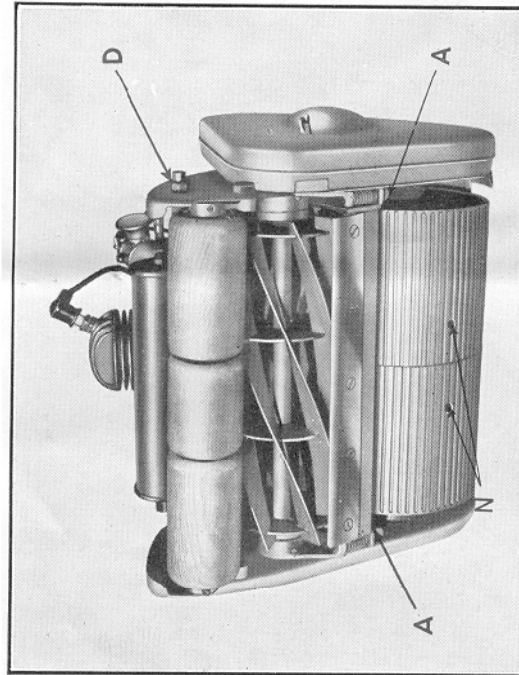

Figure 1
- (a) Land Rolls. A lubricator will be found in each roll below the surface through holes "N" (Fig. 1).
For setting the knives a simple method is used, viz.:- To set the cutting cylinder closer to the bottom blade, rotate Adjusting Screws "A" (Fig. 1) on either side of the cutting unit in a clockwise direction.
To alter height of cut. Slacken the nuts "D" (Fig. 1) and move the brackets up or down as required, care being taken to adjust both sides equally.